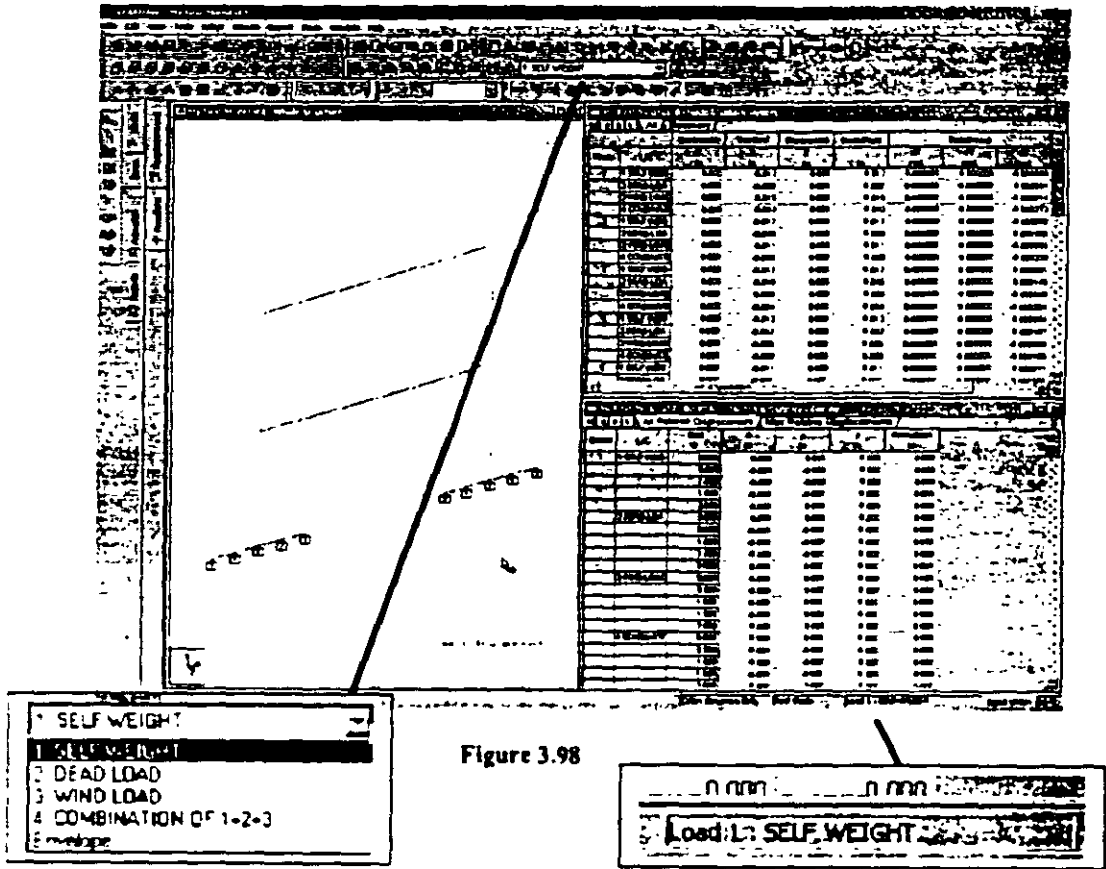

Figure 3.98
1. We can change the load case for which to view the deflection diagram by selecting a load case in the list box called *Active Load*. See Figure 3.98 Alternatively, either click on the *Symbols and Labels* icon or right-click your mouse and select *Structure Diagrams* as shown below.